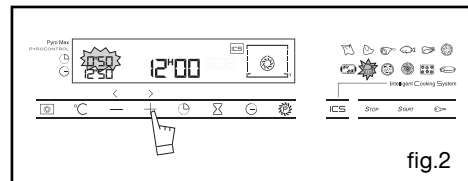

fig.2
- Press the + or - button to select your dish (fig.2).